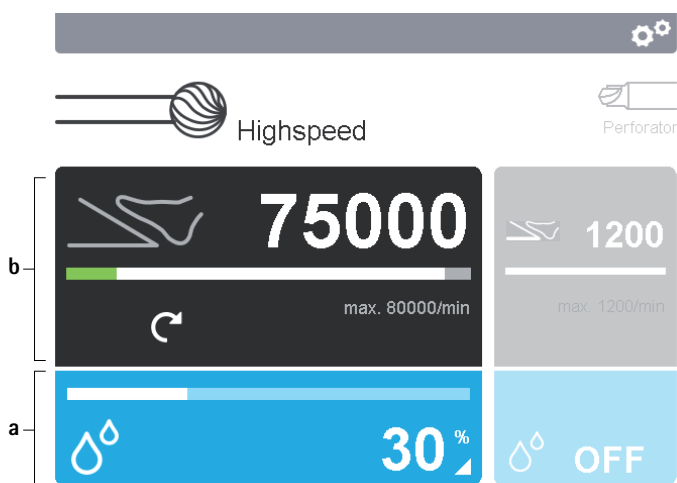

Fig. 5 Activating the control panel
- Changing the setting parameters of the applied part: Activate the applied part control panel **a** in the display **2**, see Fig. 5.